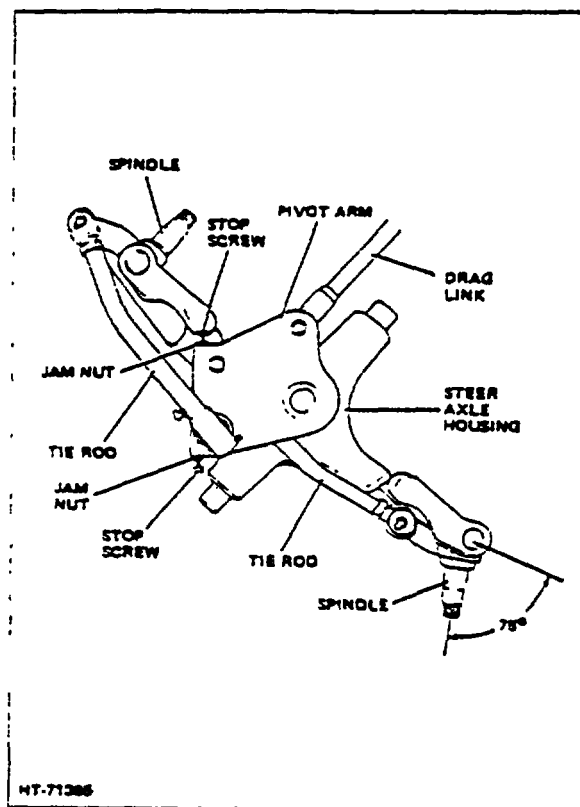

Figure 5. Pivot Arm Stop Adjustment
2. Loosen Jam nuts and adjust the pivot arm stops (Fig. 5) to allow 1/2" clearance between the steer wheel and steer axle housing with the wheels turned full right or full left. Stops should limit travel of wheel spindle to 75° from centerline of spindle. Tighten stop screw jam nut to a torque of 2 to 3 lb-ft.